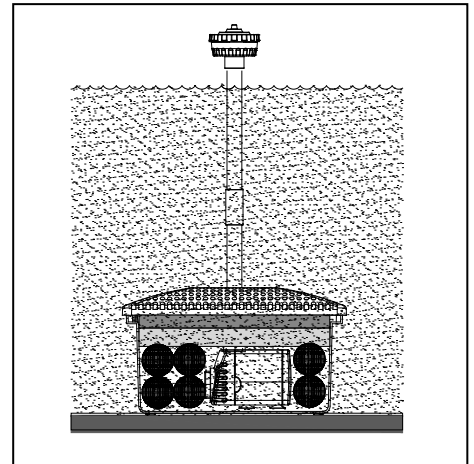

Fig. 8
8. Place the filter assembly in the water. Fig. 8